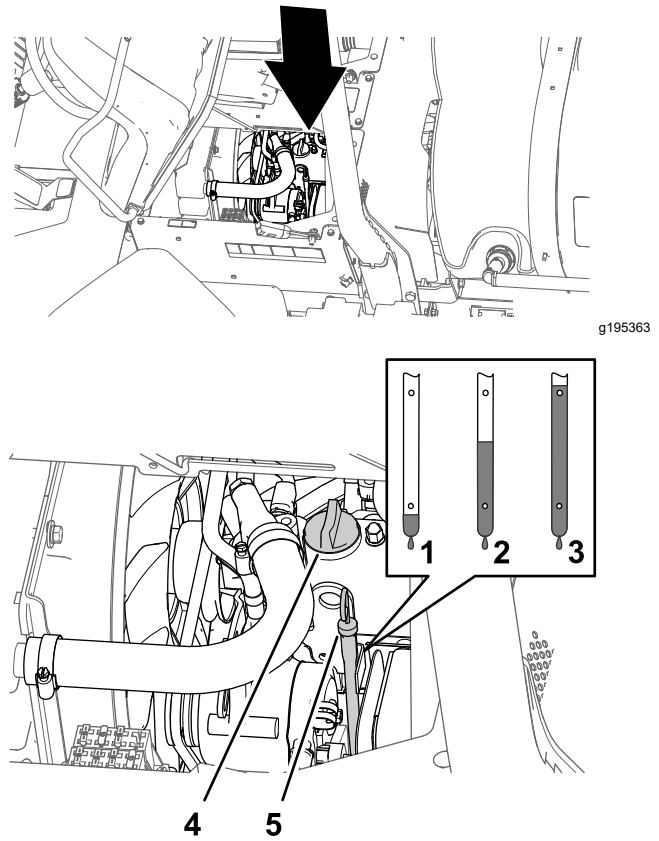

Figure 75
- Remove the dipstick, located under the passenger seat, and wipe it with a clean rag (Figure 75).
- If the oil level is low, remove the filler cap from the valve cover (Figure 75) and pour oil into the filler neck until the oil level is up to the Full mark on the dipstick.
- Install the oil-filler cap (Figure 75).
- Install the dipstick firmly in place (Figure 75).